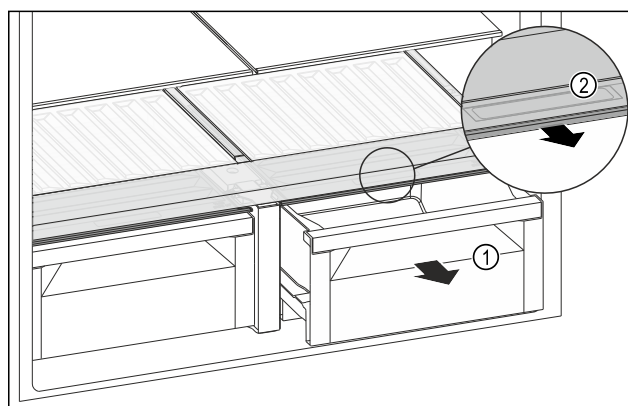

Fig. 127
- Pull out the drawer Fig. 127 (1).
- Grip the handle recess Fig. 127 (2) on the lid while pulling the lid forward at the same time.